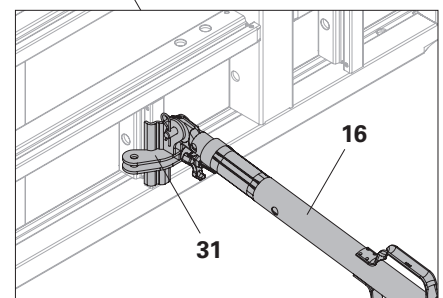

Fig. A4.03c
- For push-pull prop connections, e.g. Brace Connector-2 (31), see Section "Brace Connector-2 MX/TR" on page 62. (Fig. A4.03c)